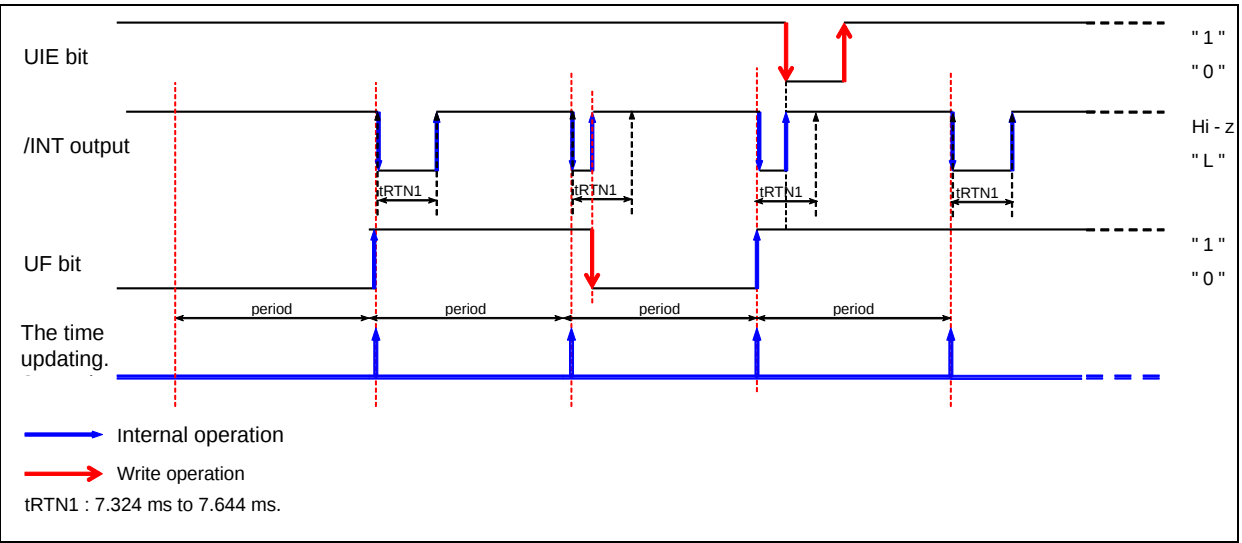

Figure 28 Time Update Interrupt Timing Chart
This function can detect voltage drop of V_{DD} and switchover power supply from V_{DD} to V_{BAT} . This function circuit comprises the comparator detector “VDET” which detect the power down of the main power source “ V_{DD} ”, and built-in MOS switch (SW) and a diode located between the main power-source pin “ V_{DD} ” and the backup power supply pin “ V_{BAT} ”. Refer to Figure 28.